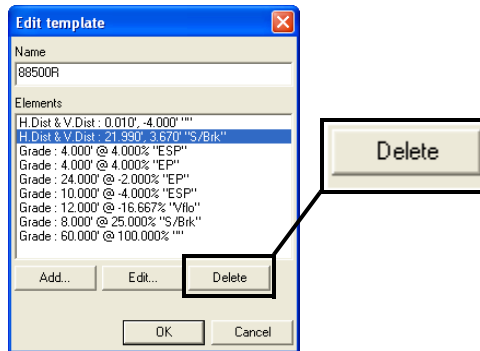

Figure 6-41. Delete Element
- To delete an element from a template, select the template and press **Edit**. Then select the element and press **Delete** (Figure 6-41 on page 6-33).